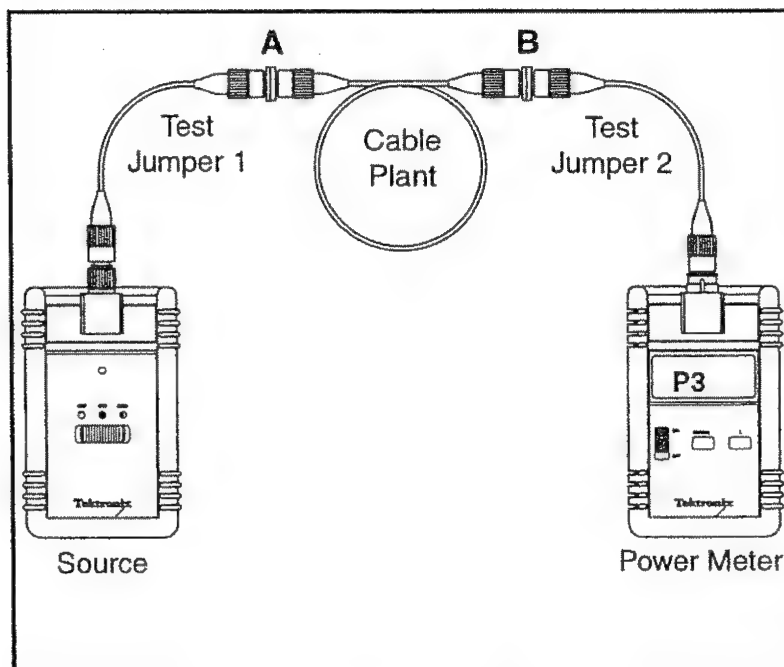

Fig 4.5 Forward Link Connection
- B) Connect the TOP laser source and power meter to their respective patch panel ports using the test jumpers per Figure 4.5.